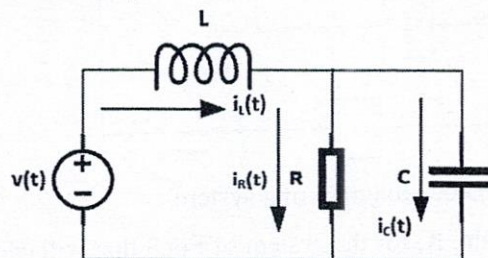

Fig. 1: Electrical network
- 1) The first step of a controller design is to model the system either in the frequency domain or in the time domain. Fig. 1 shows an electrical network of simplified transmission line supplying a resistive load where $R=10\Omega$, $L=1mH$ and $C=1\mu F$.
- 1) b) Model the system, shown in Fig. 1, in frequency domain and find the transfer function, $G(s)$ of the system if the output is the current through the resistor. CO2 C5 5